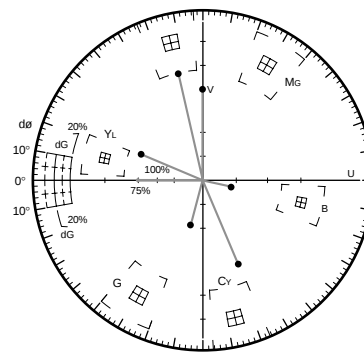

Fig. 4-7
Note: Chrominance phase and gain are adjusted to proper position as shown in Fig. 4-7 and Table 4-2.
- Repeat adjustment steps (7.1). to (7.3). until both chrominance phase and gain are adjusted to proper position as shown in Fig. 4-7 and Table 4-2.